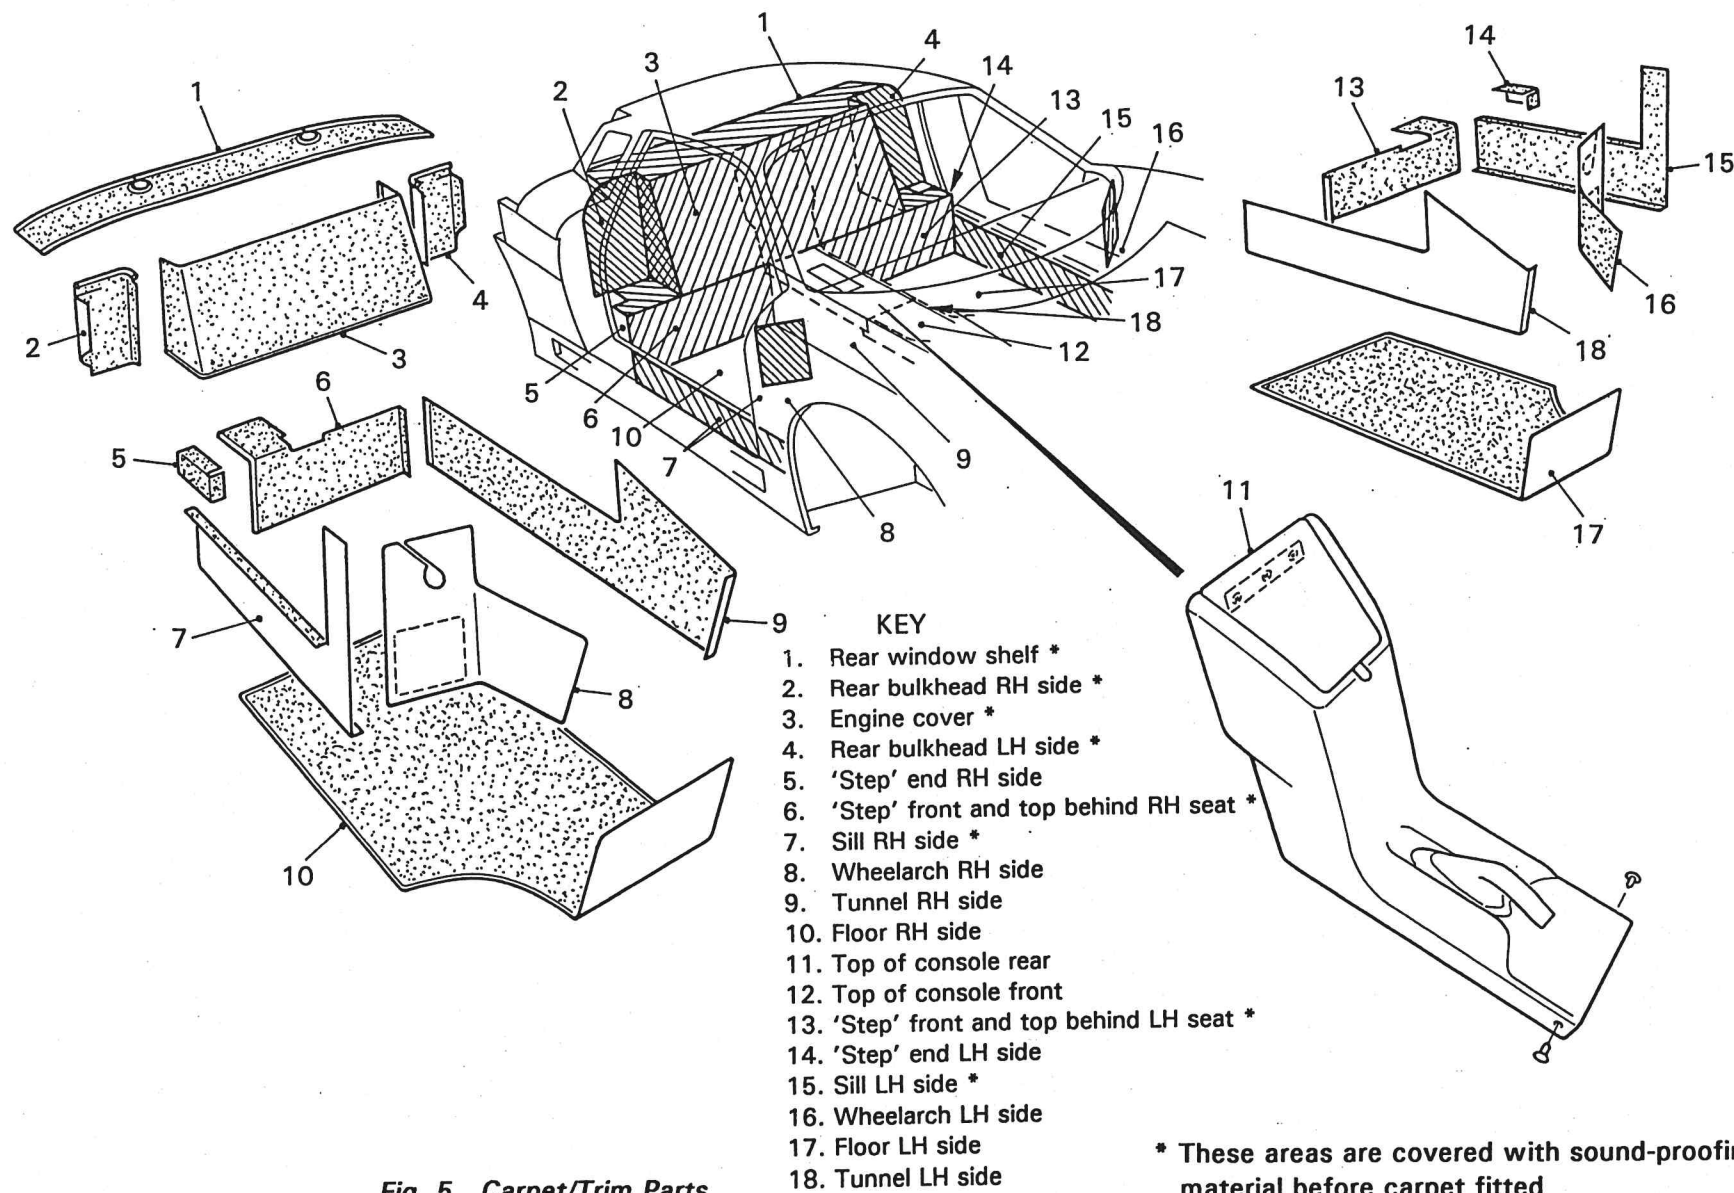

Fig. 5 Carpet/Trim Parts
1. Refer to 'starred' items in Fig. 5. Clean all surfaces to which sound-proofing material is to be applied.
NOTE. Lay out flat and stretch all material and carpet pieces for a time if they have been rolled. Examine for flaws before fitting and discard any not up to standard. Carpet pieces are pre-cut to size and all are glued down using contact adhesive. Remove the engine cover at the rear of the passenger compartment. Refer to Fig. 5.